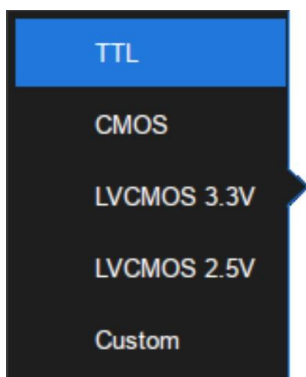

Figure 8.8 Logic Setting
- The window shown in figure 8.8 will appear.